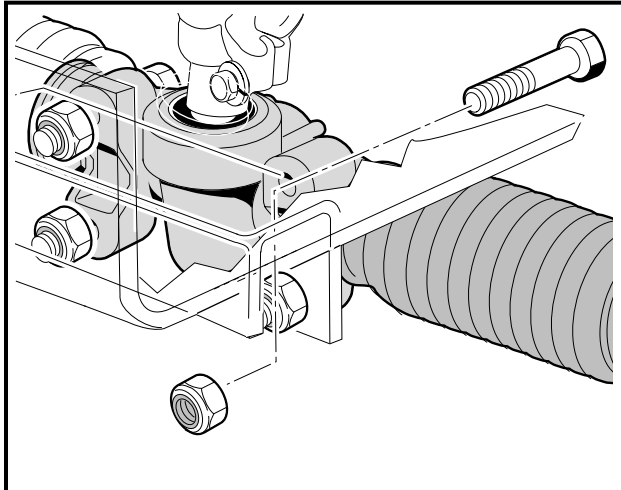
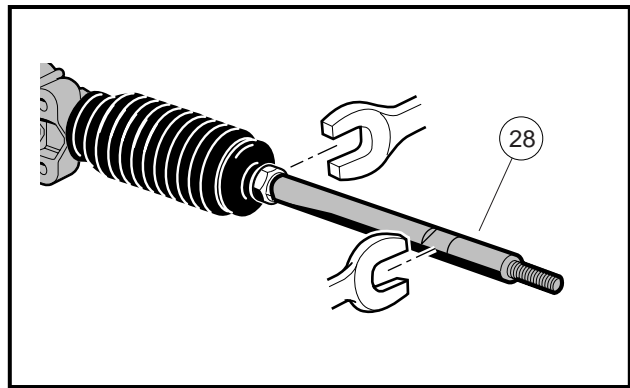
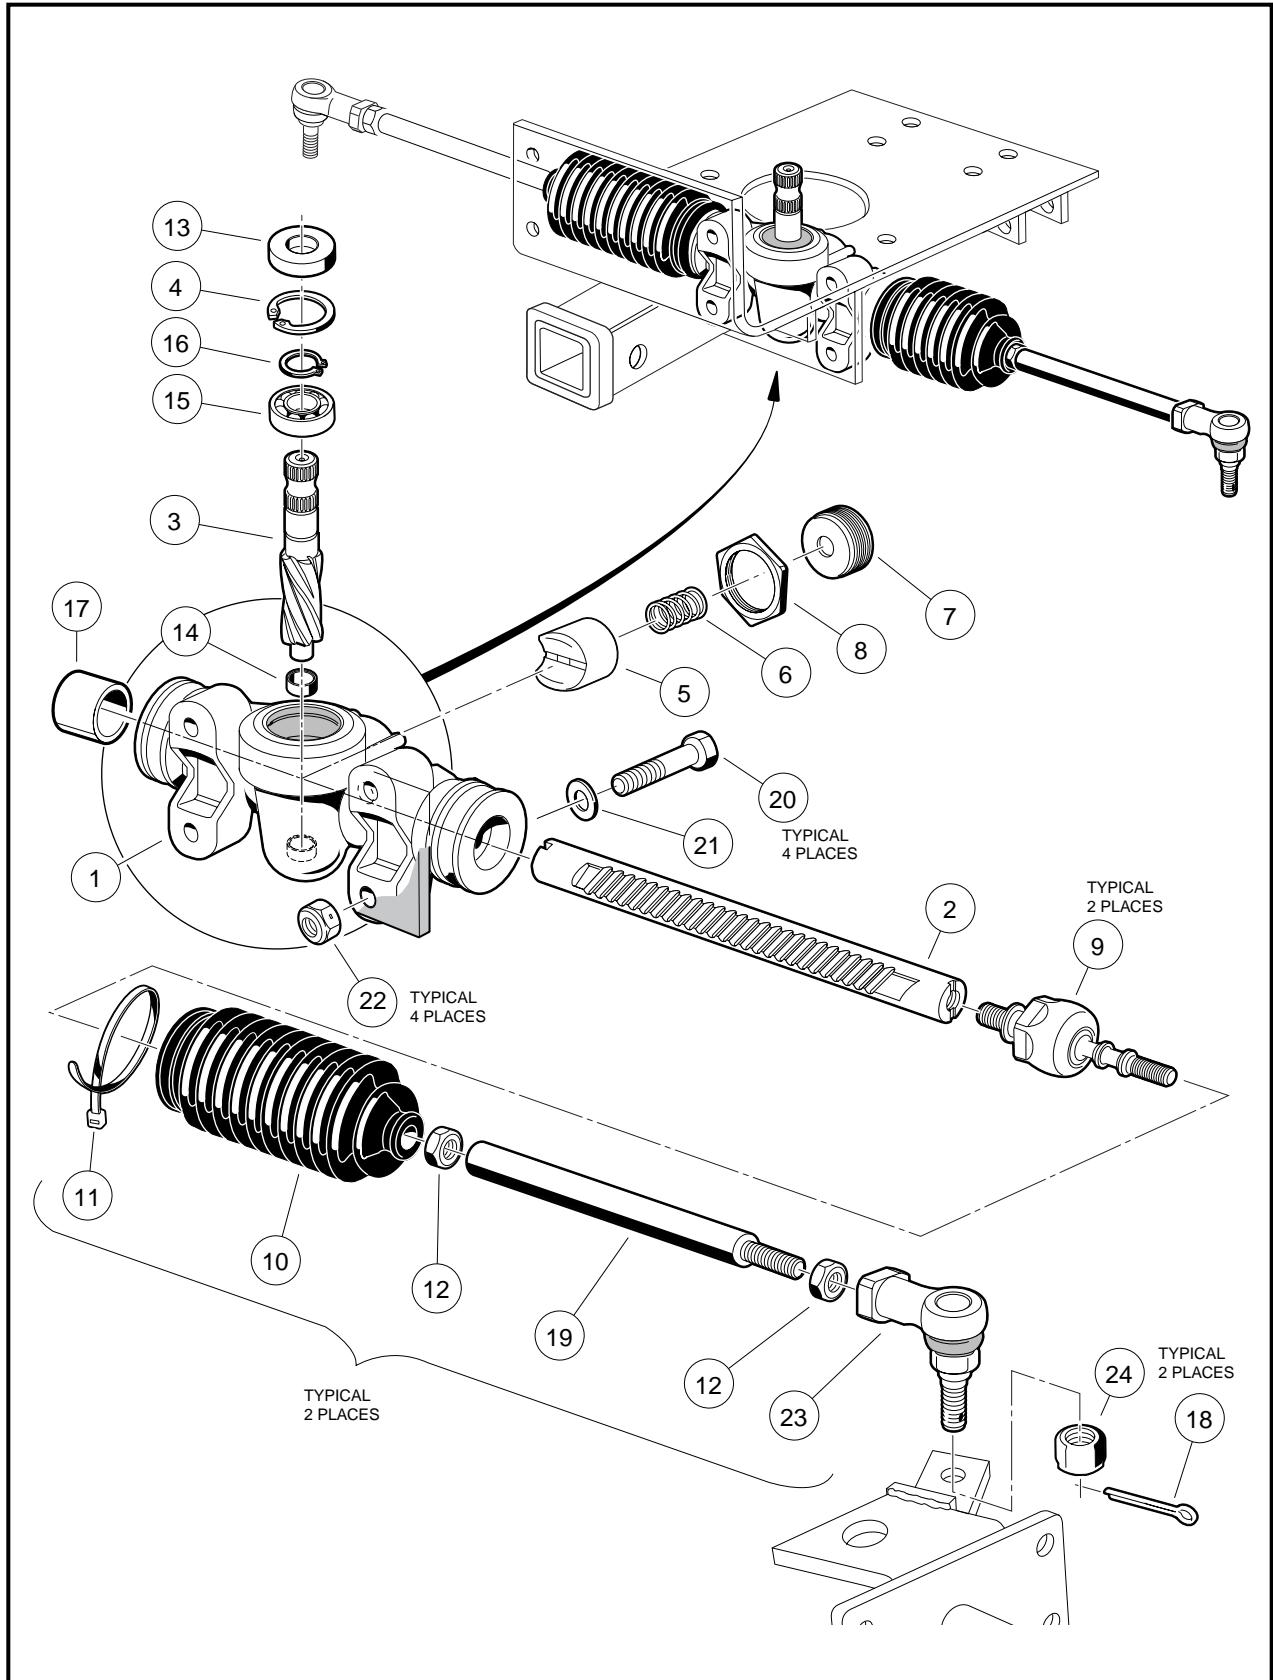
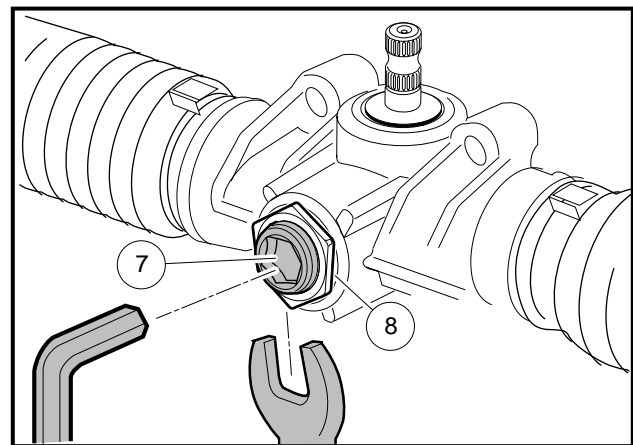

Figure 7-7 Rack and Pinion Bolts
Figure 7-10 Drag Link
Figure 7-20 Steering Gear
Figure 7-22 Rack and Pinion Adjustment
3. Remove the cotter pins (18) and ball joint retaining nuts (24) (**Figure 7-20, Page 7-11**).
4. Remove the ball joints (23) from the spindle assemblies (**Figure 7-20, Page 7-11**).
5. Remove the four bolts (20), washers (21) and nuts (22) from the steering rack assembly mounting bracket (**Figure 7-7, Page 7-7 and Figure 7-20, Page 7-11**).
2. With one wrench on the flat surface of the drag link, and another wrench on the ball joint jam nut, remove the drag link (28) (**Figure 7-10, Page 7-8**). Repeat this step for the other drag link.
4. Remove the two hex nuts (12) and slide off both of the dust seal bellows (10) (**Figure 7-20, Page 7-11**).
5. Remove the rack screw nut (8), rack guide screw (7), rack guide pressure spring (6) and the rack guide (5) (**Figure 7-20, Page 7-11**).
6. Remove the universal joint assembly from the pinion (3) by fully removing the bolt and then sliding off the universal joint (**Figure 7-20, Page 7-11**).
10. Remove the U-joint from the pinion (3) (**Figure 7-20, Page 7-11**).
12. Inspect the bushing (17) and needle bearing (14) for excessive wear. If wear is excessive, replace the steering box assembly (CCI 102010101) (**Figure 7-20, Page 7-11**).
13. Inspect the ball joints (9) for wear (**Figure 7-20, Page 7-11**). If one or both of the ball joints (9) are excessively worn, remove the worn ball joint from the rack.
- 13.3. Using a wrench, remove the ball joint (9) from the rack (2) (**Figure 7-20, Page 7-11**).
14. Remove the rack (2) from housing (1) (**Figure 7-20, Page 7-11**).
1. Apply a liberal amount of EP grease to the teeth of the rack (2), then slide the rack through the bushing (17) and housing (1) (**Figure 7-20, Page 7-11**).
2. If the pinion bearing (15) was removed, grease a new bearing before installation. Press new bearing onto pinion shaft, exerting all pressure on the inner race. Then install the c-type stop ring (16) (**Figure 7-20, Page 7-11**).
3. Install pinion (3) and bearing (15) assembly into the housing (1) (**Figure 7-20, Page 7-11**). Make sure the rack gear teeth will mesh with the gear teeth on the pinion. The rack may need to be rotated slightly while lightly tapping on the pinion-bearing assembly with a rubber mallet. **See following CAUTION.**
4. Install the snap ring (4) (**Figure 7-20, Page 7-11**).
6. Apply a small amount of grease to the rack guide (5) where it comes into contact with the rack (2) (**Figure 7-20, Page 7-11**).
7. Place a few drops of Loctite® 222 to the threads of the screw (7) (**Figure 7-20, Page 7-11**).
9. Install the rack guide (5), pressure spring (6) and screw (7) (**Figure 7-20, Page 7-11**). The screw should be threaded in until it bottoms out and then backed out 1/4 turn (**Figure 7-22, Page 7-12**).
12. If measured resistance is not 7 to 15 in-lb (.8 to 1.7 N·m), adjust the screw (7) until correct setting is achieved. Tighten the nut (8) to 28 ft-lb (38 N·m) (**Figure 7-22, Page 7-12**). **See following NOTE.**
NOTE: When tightening the nut (8) make sure the screw (7) does not change adjustment (**Figure 7-22, Page 7-12**).
13. Install the ball joints (9) to each end of the rack (2). Tighten to 20 ft-lb (27 N·m) (**Figure 7-20, Page 7-11**).
15. Install the two dust seal bellows (10) (**Figure 7-20, Page 7-11**).
16. Install new bellows clamps (wire ties) (11) (**Figure 7-20, Page 7-11**).
18. Install the two nuts (12) and drag links (19). Tighten drag link (19) against nut (12) to 20 ft-lb (27 N·m) (**Figure 7-10, Page 7-8 and Figure 7-20, Page 7-11**).
20. Install the two nuts (12) and ball joints (23) to the drag links (19). Tighten to 20 ft-lb (27 N·m) (**Figure 7-20, Page 7-11**).
3. Position the steering gear box assembly on the vehicle frame and attach the steering U-joint to the gear box assembly. Install the bolts (20), washers (21) and nuts (22). Using a crisscross pattern, tighten the four nuts to 20 ft-lb (27.12 N·m) (**Figure 7-20, Page 7-11**).
- 6.1. Remove the two cotter pins (18) (**Figure 7-20, Page 7-11**).
- 6.2. Remove the lock nuts (24) (**Figure 7-20, Page 7-11**).
- 6.4. Tighten the lock nuts (24) to 18 ft-lb (24.4 N·m) (**Figure 7-20, Page 7-11**).